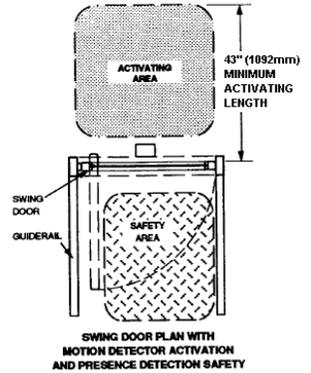

Figure 3
- 6 If the door has motion detector activation and floor mat safety, one of the following three requirements must be met, see Figure 3.